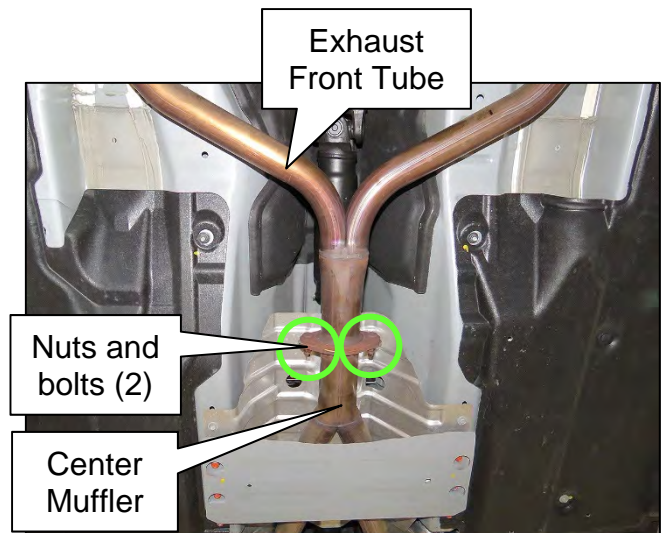

Figure 33
50. Remove the two (2) nuts and bolts that connect the Exhaust Front Tube to the Center Muffler, where shown in Figure 33.